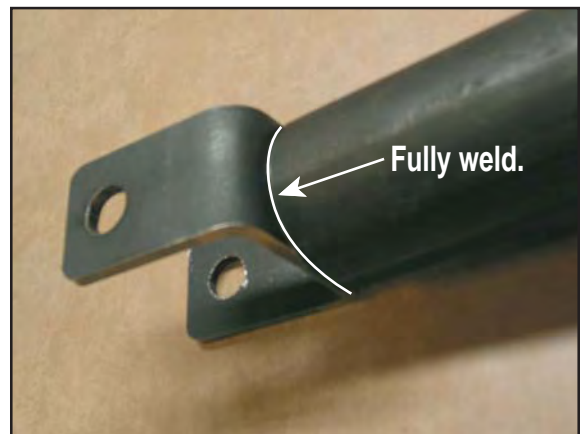

Figure 8
2. Fully weld the clevis to the adapter tube (Figure 8).